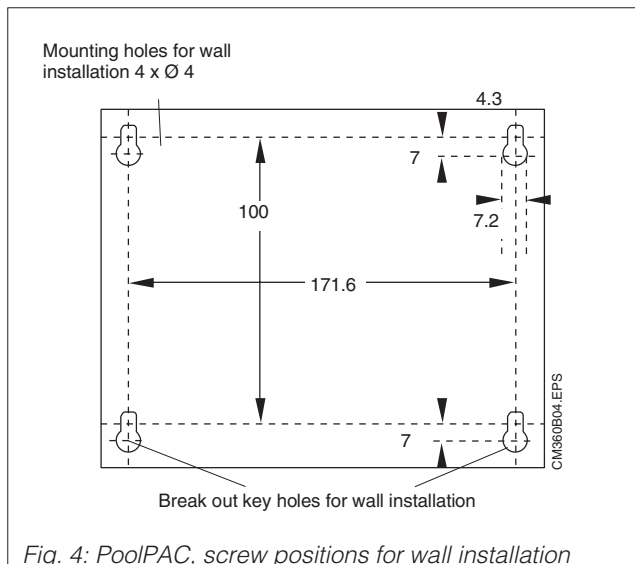

Fig. 4: PoolPAC, screw positions for wall installation
- Hold the instrument against the wall and mark the screw positions or determine according to figure 4.